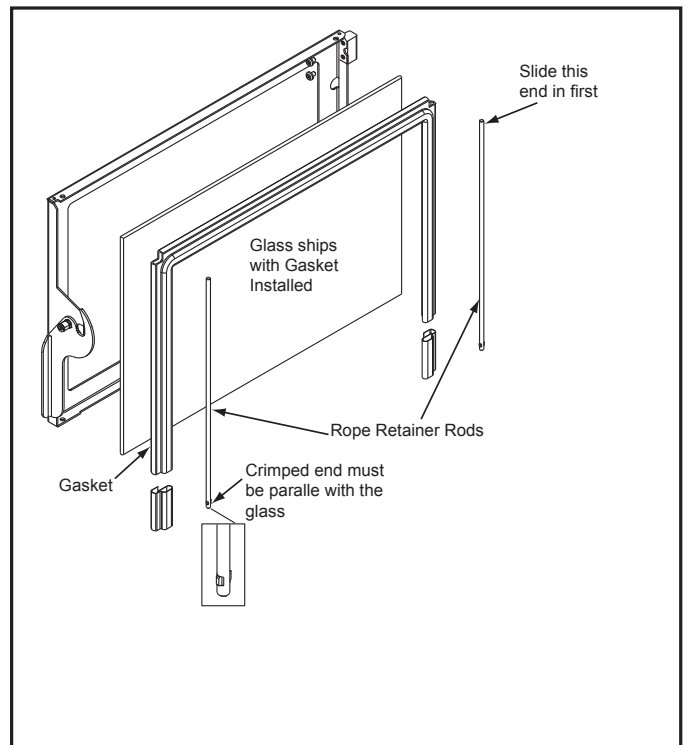

Figure 38.2
4. Slide the retainer rod into the top hole first, and then line up the bottom crimped end with the hole in the door. The crimped end must be parallel with the glass in order to insert it into place. **Figure 38.2.**